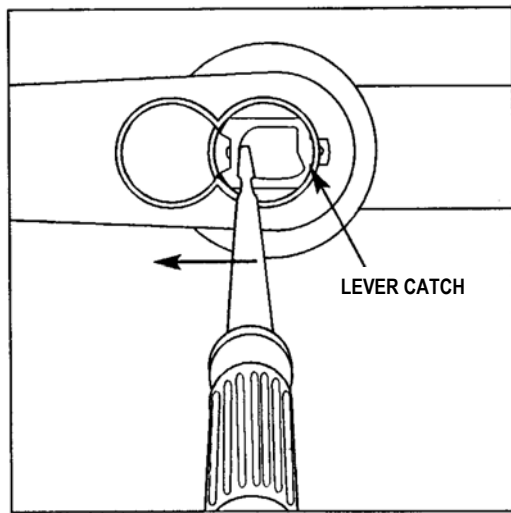

FIG. 23: REMOVING THE IC CORE LEVER
2. Use a screwdriver to push inside of lever catch to the side (see Fig. 23). Pull off the IC lever.